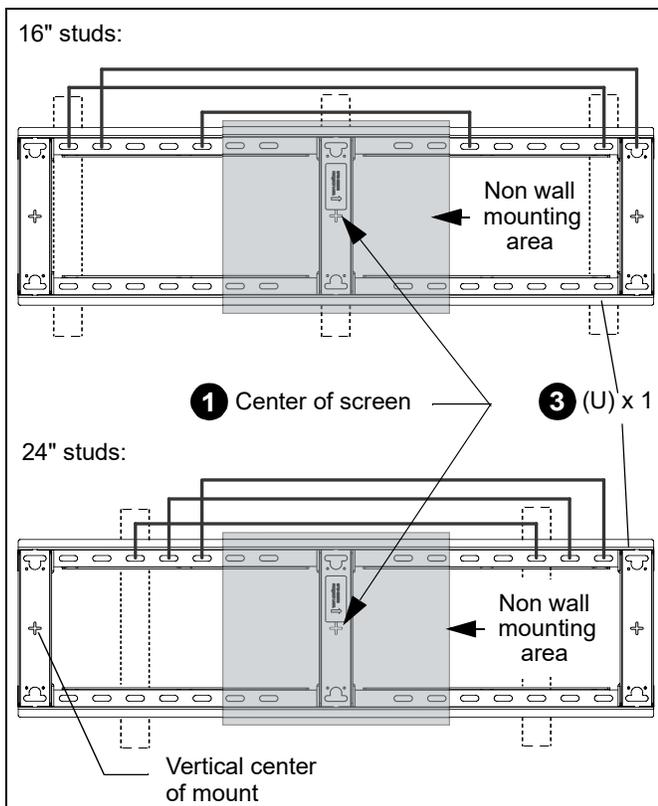

Figure 1
3. Line up the four slots on mount (U) with the two studs previously identified. (See Figure 1)